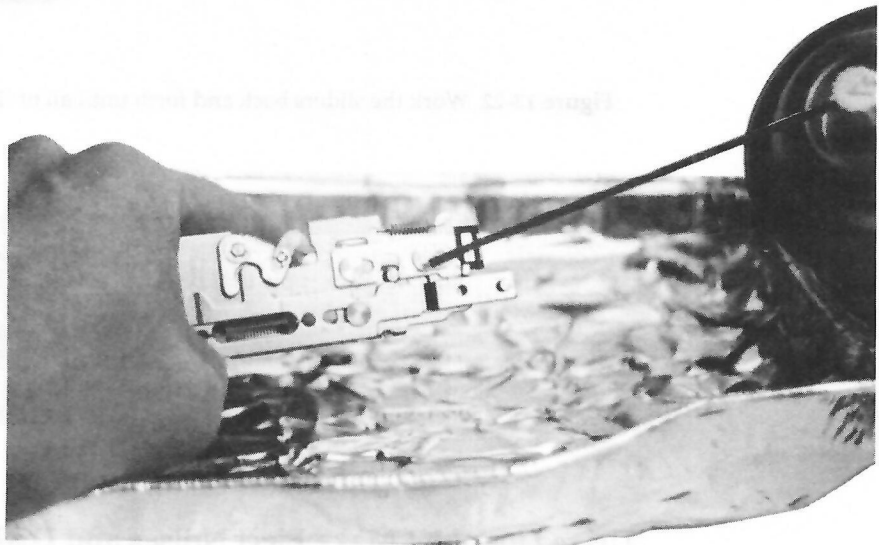

Figure 13-21 Spray away the old grease with WD-40.
10. Set up a disposable aluminum tray as shown in Figure 13-21. Hold the eject mechanism over the tray and spray the remaining grease away with WD-40.